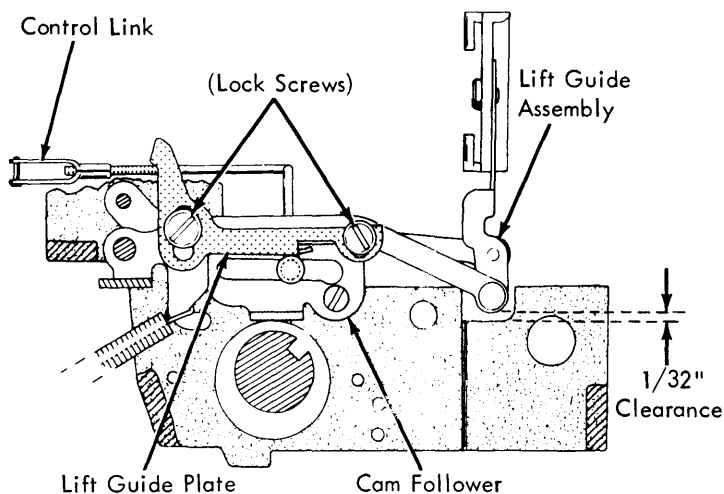

FIGURE 196. Ribbon Lift Guide Plate
1. Lift Guide Plate - With the ribbon lift cam follower on the low point of the lift cam, position the lift guide plate on the arm of the lift guide assembly to satisfy two conditions (Fig. 196).
- a. Position the lift guide plate vertically so that the rear of the lift guide assembly rests $1/32''$ above the carrier casting when the stencil lever is not in the stencil position (Fig. 196).
A good check for the spreading effect illustrated by Figure 197-b is to alternately type the degree and underscore beginning with the underscore in phase with a high ribbon life operation. The lift pattern illustrated by Figure 196-e should occur. If the lowest underscore strikes the ribbon approximately .050" from the bottom edge of the ribbon and the highest degree strikes the ribbon approximately .030" from the top edge, then the spreading condition illustrated by Figure 197-b does not exist. (The control link adjustment which controls the position of the entire lift pattern on the ribbon must be considered when using this check.)